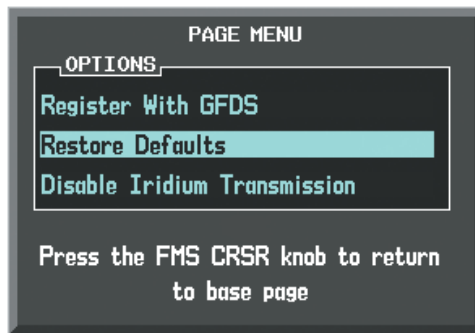

Figure 8-106 Restore Defaults
- 2) Turn the **FMS** Knob to select 'Restore Defaults' in the menu list as shown in Figure 8-106.